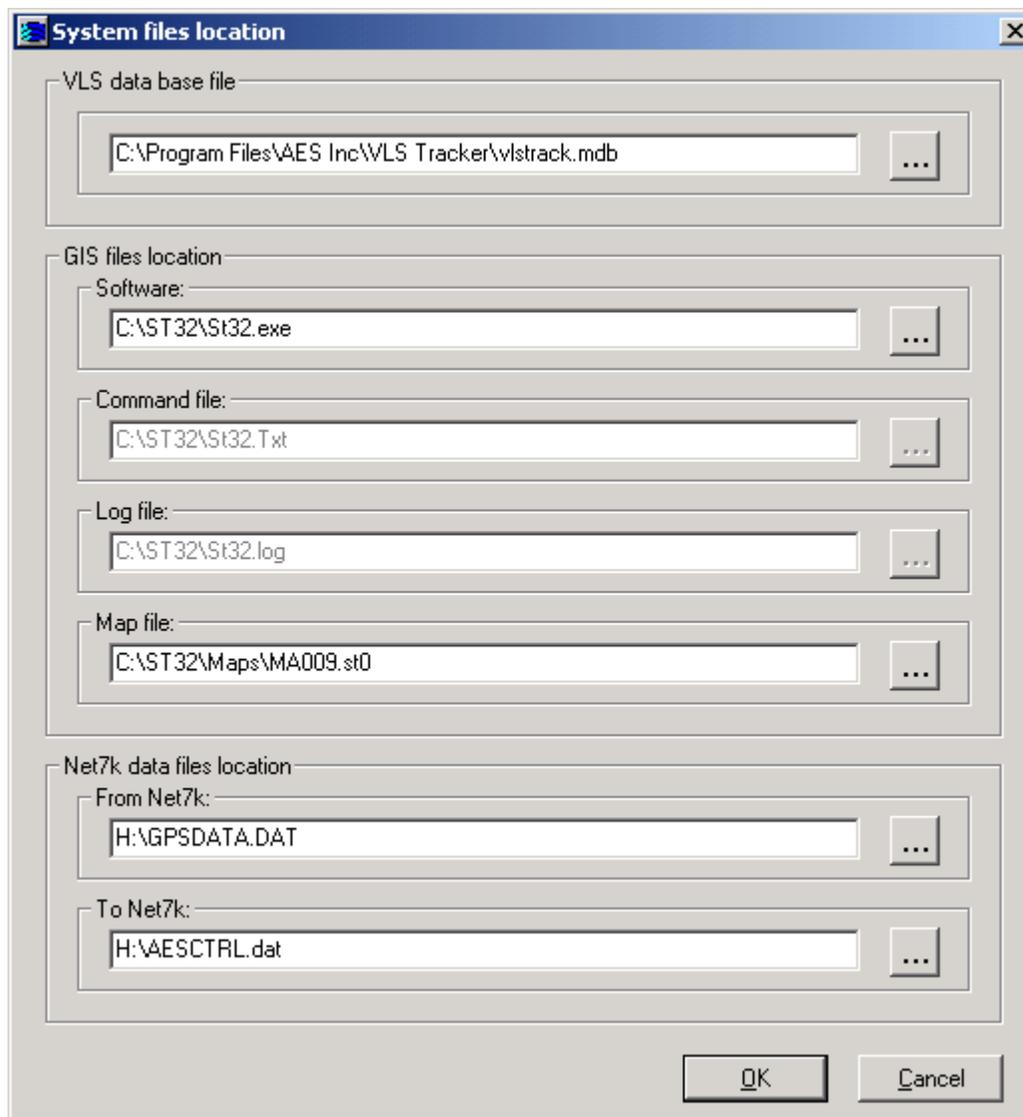

Fig. 5a System files location setup – Network Configuration.
- Path setup to the system files (*Paths* menu function). See figs. 5a & 5b below.
Shown in Figs. 5a & 5b are examples of the window opened by the *Paths...* function in the *Setup* menu.
Data in the fields shown in Fig. 5a are appropriate for a configuration that uses a Mapped virtual drive labeled H: on a Network connecting the *VLS-Tracker Server* to the Net7000 PC as described in examples this manual.
One possible configuration would be to create a folder on drive C: of the Windows PC that is also the LANtastic server and give it a name such as “TDATA”. Then map your LANtastic clients to that folder so that whatever drive letter you select, H: in this example equals that folder. Then simply using the drive letter H: will point the software to the shared folder and the examples shown in Fig. 5a can be used. Also Net7000 software needs to point at the same shared folder through its network client, preferably using a simple drive letter such as H:.
Note: Fig. 5a System files location setup (Assuming H: = \\[servername]\TDATA\)